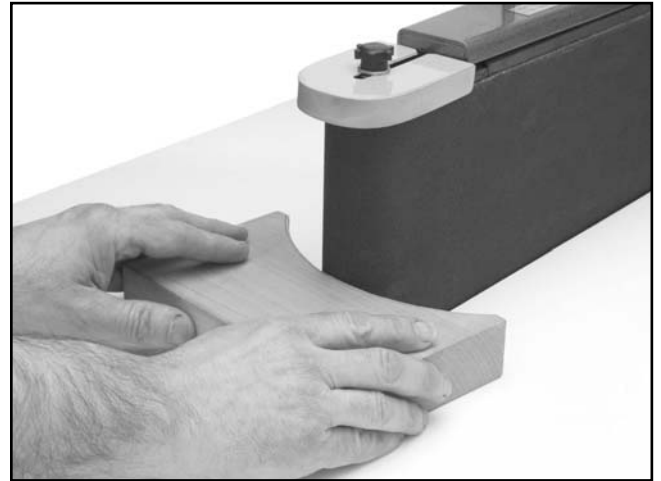

Figure 25. Typical contour sanding operation.
2. Grip the workpiece firmly and feed it into the curved end (as shown in **Figure 25**), and continue moving the workpiece profile along the contour until you achieve your desired shape.